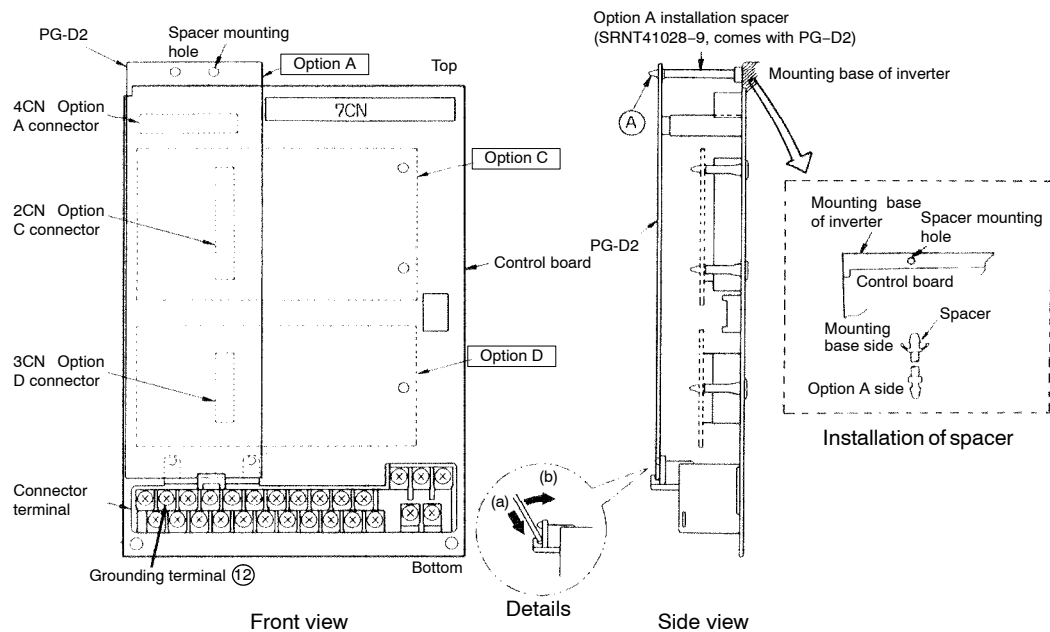

Fig. 3 Installation of PG speed control card PG-D2
## 2 Installing to Inverter (See Fig. 3)
- ① Turn OFF the main power and wait for the time specified on the cover of the inverter. Remove the cover and verify that the CHARGE indicator lamp is OFF.
- ② Insert the attached spacer (SRNT41028-9) into the spacer mounting hole in the mounting base of the inverter. (See Fig. 3.)